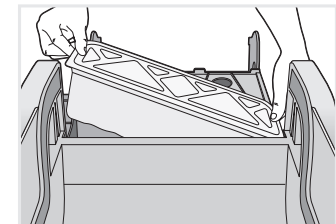

Fig. 11
- Press in on four corners of lid to secure lid to the waste receptacle, pull the disposable waste receptacle edge free from the tabs holding it in place, lift out and dispose (Fig. 11).